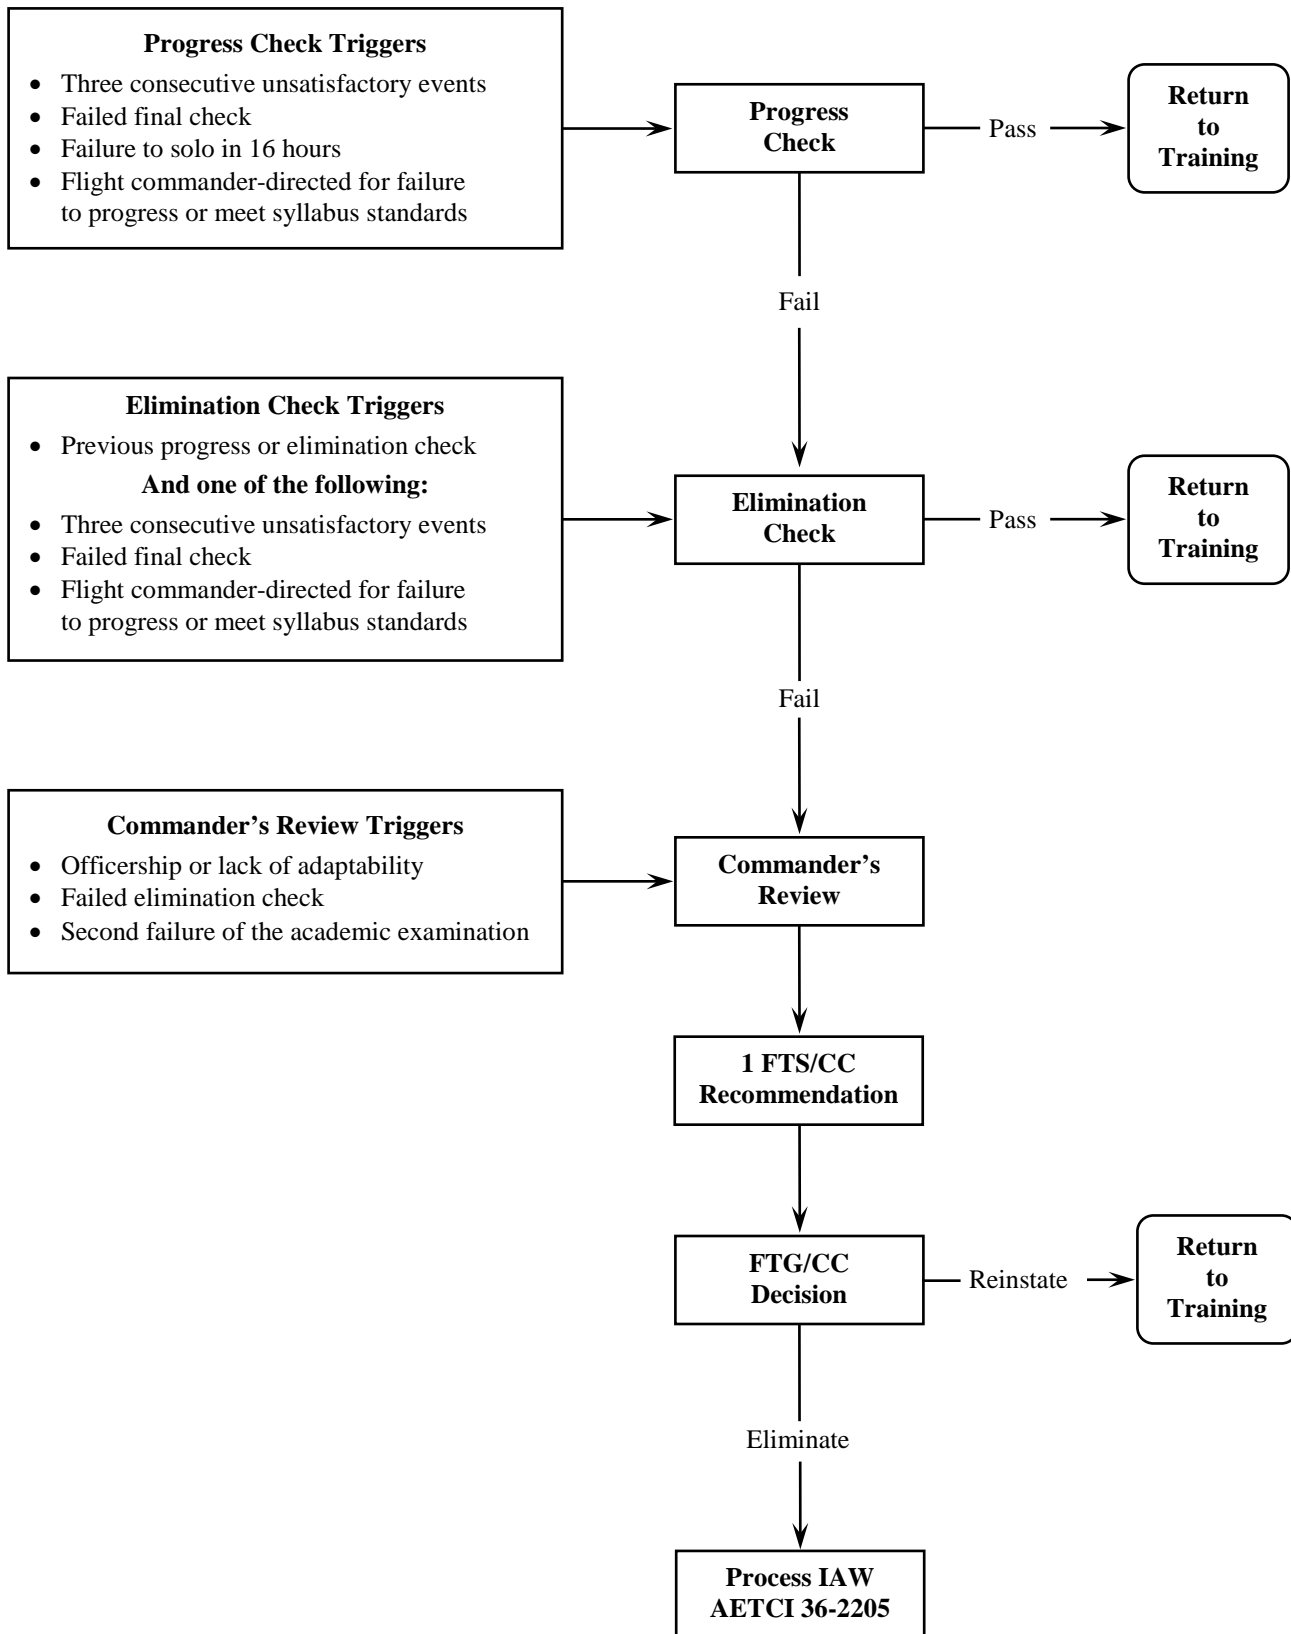

Figure 2-1 — Commander's Review Process
- f. *Progress Check (PC)* — Figure 2-1 shows a list of PC triggers. When assigning an overall grade, the PC pilot should consider the student's ability to complete the course within syllabus constraints as well as overall proficiency and situational awareness. The overall grade is NG or U. Document a PC as **CX88** and include in the student's training folder. For progress checks successfully completed and flown as a result of the student not soloing, the PC pilot certifies the student is safe for solo and ensures the student is scheduled solo on the next syllabus sortie.
- g. *Elimination Check (EC)* — Figure 2-1 shows a list of EC triggers. When assigning an overall grade, the EC pilot should consider the student's ability to complete the course within syllabus constraints as well as overall proficiency and situational awareness. The overall grade is NG or U. Document an EC as **CX89** and include in the student's training folder. For elimination checks successfully completed and flown as a result of the student not soloing, the EC pilot certifies the student safe for solo and ensures the student is scheduled solo on the next syllabus sortie. A student who fails an EC is entered in the commander's review process according to AETCI 36-2205.
14. **Commander's Review (CR) Process**
Figure 2-1 depicts the triggers and decision-making flow for progress checks, elimination checks, and commander's reviews. Students reinstated into training after a commander's review (CR) because of a flying deficiency must fly an elimination check following completion of the additional training sorties authorized in the reinstatement write-up.